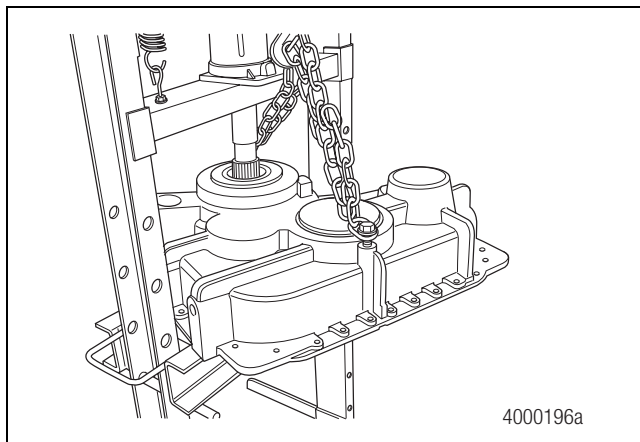

Figure 4.22
1. Set the rear cover with the rear output shaft as an assembly into a suitable press. Figure 4.22.
2. Press the rear output shaft assembly out of the rear cover. Figure 4.22.